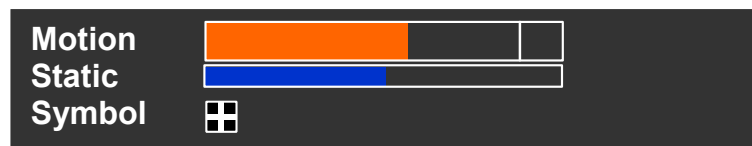

Figure 2.7: Display Option Indicators (Motion / Static / Symbol)
- Display option settings area (Figure 2.7)** indicates which display options (motion, static, and/or symbol) are active. Any combination of these options may be selected or ‘layered’ upon one another for display viewing. Because of this layering capability, when the radar is set for motion detection the ‘motion layer’ is active. Likewise if the radar is set for static detection, the ‘static layer’ is active. If a color bar appears next to the Motion and/or Static text this indicates that those functions are active. A ‘+’ sign in a box next to the Symbol text indicates that Symbol display is activated. The color bars also indicate sensitivity levels for both Motion and Static displays. These functions are selected and controlled with green control buttons as discussed in *Section 2.1*. See *Section 3.5.4* for more information on these settings.